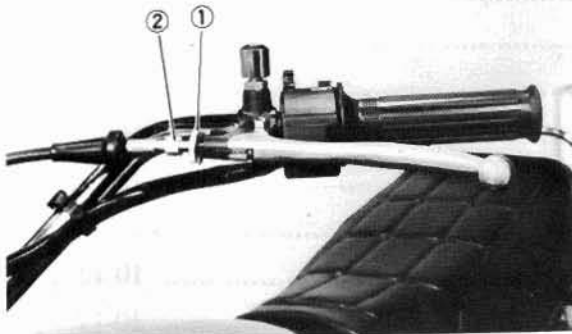

Fig. 10-1.
- See Fig. 10-1. with respect to removal of the clutch cable on the handlebar side.
- Remove cam lever bolt ① on the clutch side to loosen the adjuster lock nut and remove the adjuster.